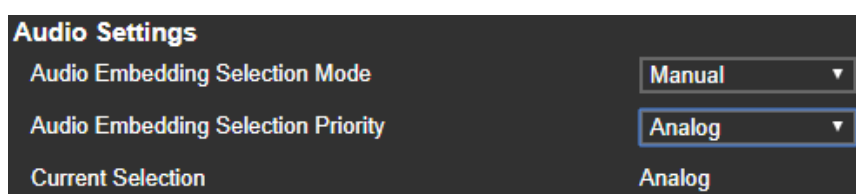

Figure 15: TP-594Txx Video and Audio Page – Analog Audio to Receiver Settings (no HDMI signal)
5. Under Audio Settings (Figure 15):